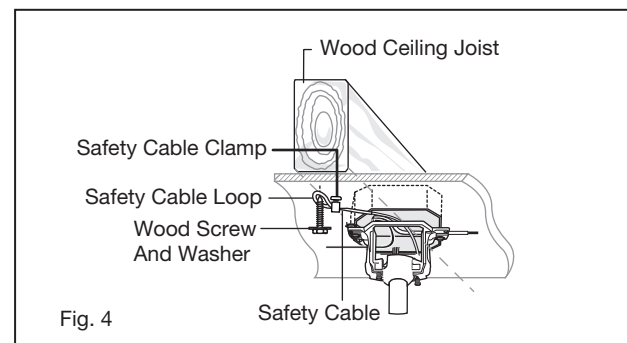

Fig. 4
- 3 Lift ball/downrod/fan into hanger bracket opening. **NOTE:** The tab opposite hanger bracket opening should fit in slot on ball. (Fig. 4)
An UPWARD airflow moves warmer air off the ceiling area as shown in Figure 4. This allows you to set your heating unit on a cooler setting without affecting your comfort.